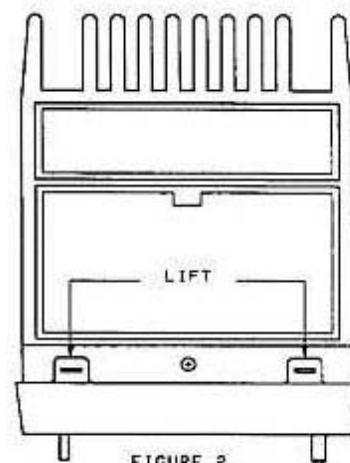

FIGURE 2
5. Gently lift the two tabs on the bottom of the front panel and then pull the front panel off the transceiver. Figure 2.
7. Desolder the center conductor and shield of the VHF antenna coax from the final board and pull the coax out of the heat sink. Figure 2.
8. Desolder the terminal next to pin 3 of the power module. Figure 2.